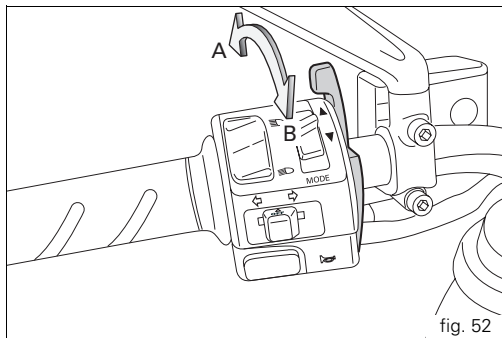

fig. 52
- 2) Move the cold start lever to position (B, fig. 52).
Then, as the engine warms up, move the cold start lever gradually towards vertical position (A, fig. 52). Once the engine is at normal running speed, it should idle smoothly with the cold start lever completely closed.